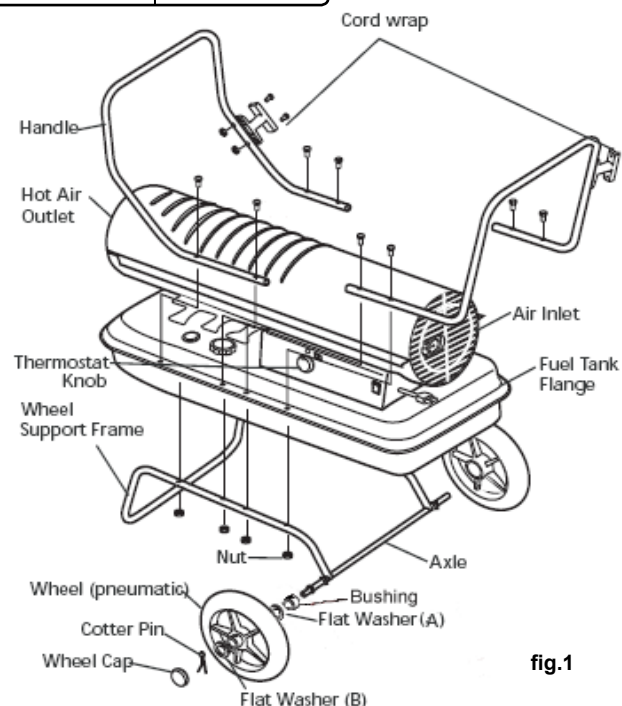

fig.1
- 3.6 Attach the cord wraps onto the front and rear handles as shown in fig.1 using screws and nuts.